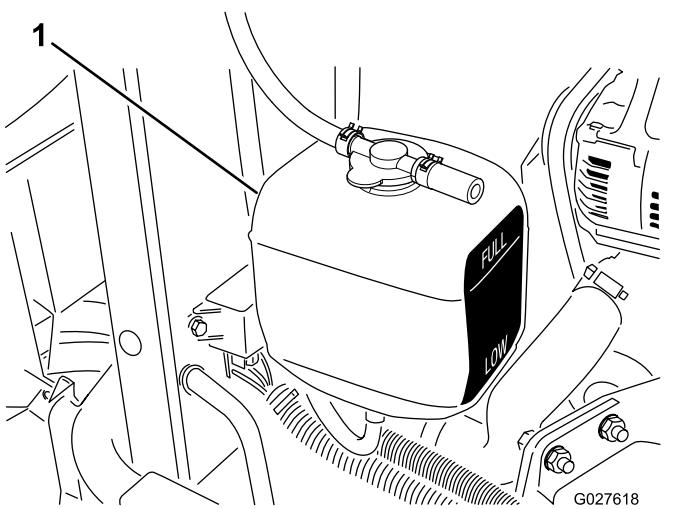

Figure 71
- Check the coolant level in the expansion tank (Figure 71).